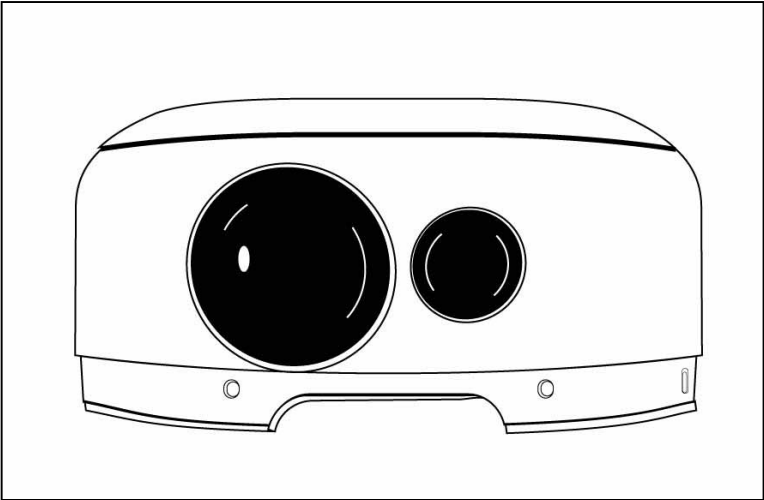

Figure 5-1-5: TOW 2B Sensor Assembly
- e. **Sensor Operation** (Figure 5-1-5):
- (1) **Laser.** The TOW 2B uses a laser to measure the distance to the ground, this occurs every few inches during missile flight. This enables the missile to pick up a profile of the ground similar to a depth sounder on a boat. The height differential created by an AFV will satisfy one of the two sensors required to detonate the warhead. To achieve this, the missile computer runs four logic models or target profiles which are used for identification from any direction. They are as follows: